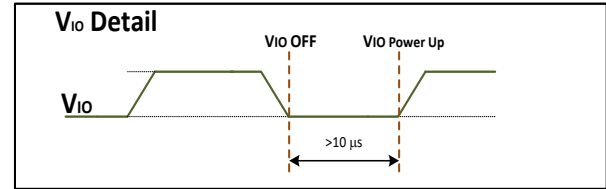

Figure 1 Digital Supply Detail
1. Once VIO is powered down to 0V, wait a minimum of 10 μ s to reapply power to VIO. (see figure 1)